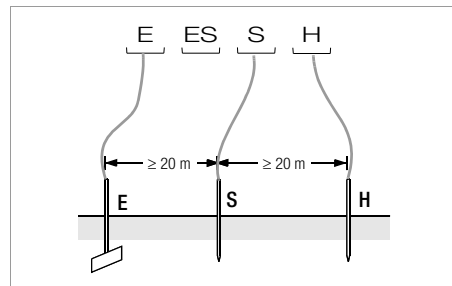

Figure 2 Measuring Earthing Resistance with a 3-Wire Test Setup
- Position the probe at least 20 meters, and the auxiliary earth electrode at least 40 meters from the earth electrode (see also Figure 2 on page 18).